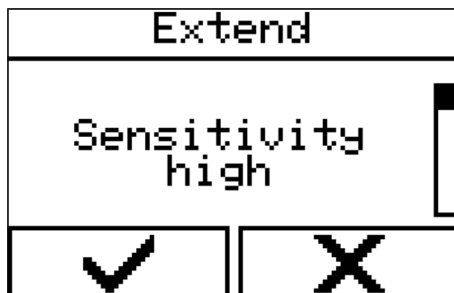

Fig. 110: Activating the collision detection menu
3. → Set the sensitivity of collision detection for the selected direction of travel (in this case: 'Sensitivity high', Fig. 110):